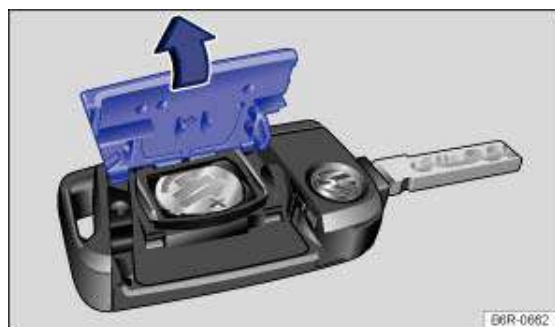

Fig. 24 Vehicle key: opening the battery compartment
- Pull up the cover on the rear side of the vehicle key → Fig. 24 in the direction of the arrow → .
- Fit the cover as shown → Fig. 24 and push it onto the vehicle key housing against the direction shown by the arrow until it engages.